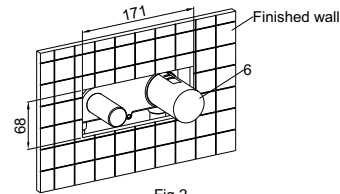

Fig.2
The outer surface of the finished wall should be between the MAX and MIN marks on the protectors(6) as Fig.2 shown. The size of the opening in the finished wall is as shown in Fig.2 .